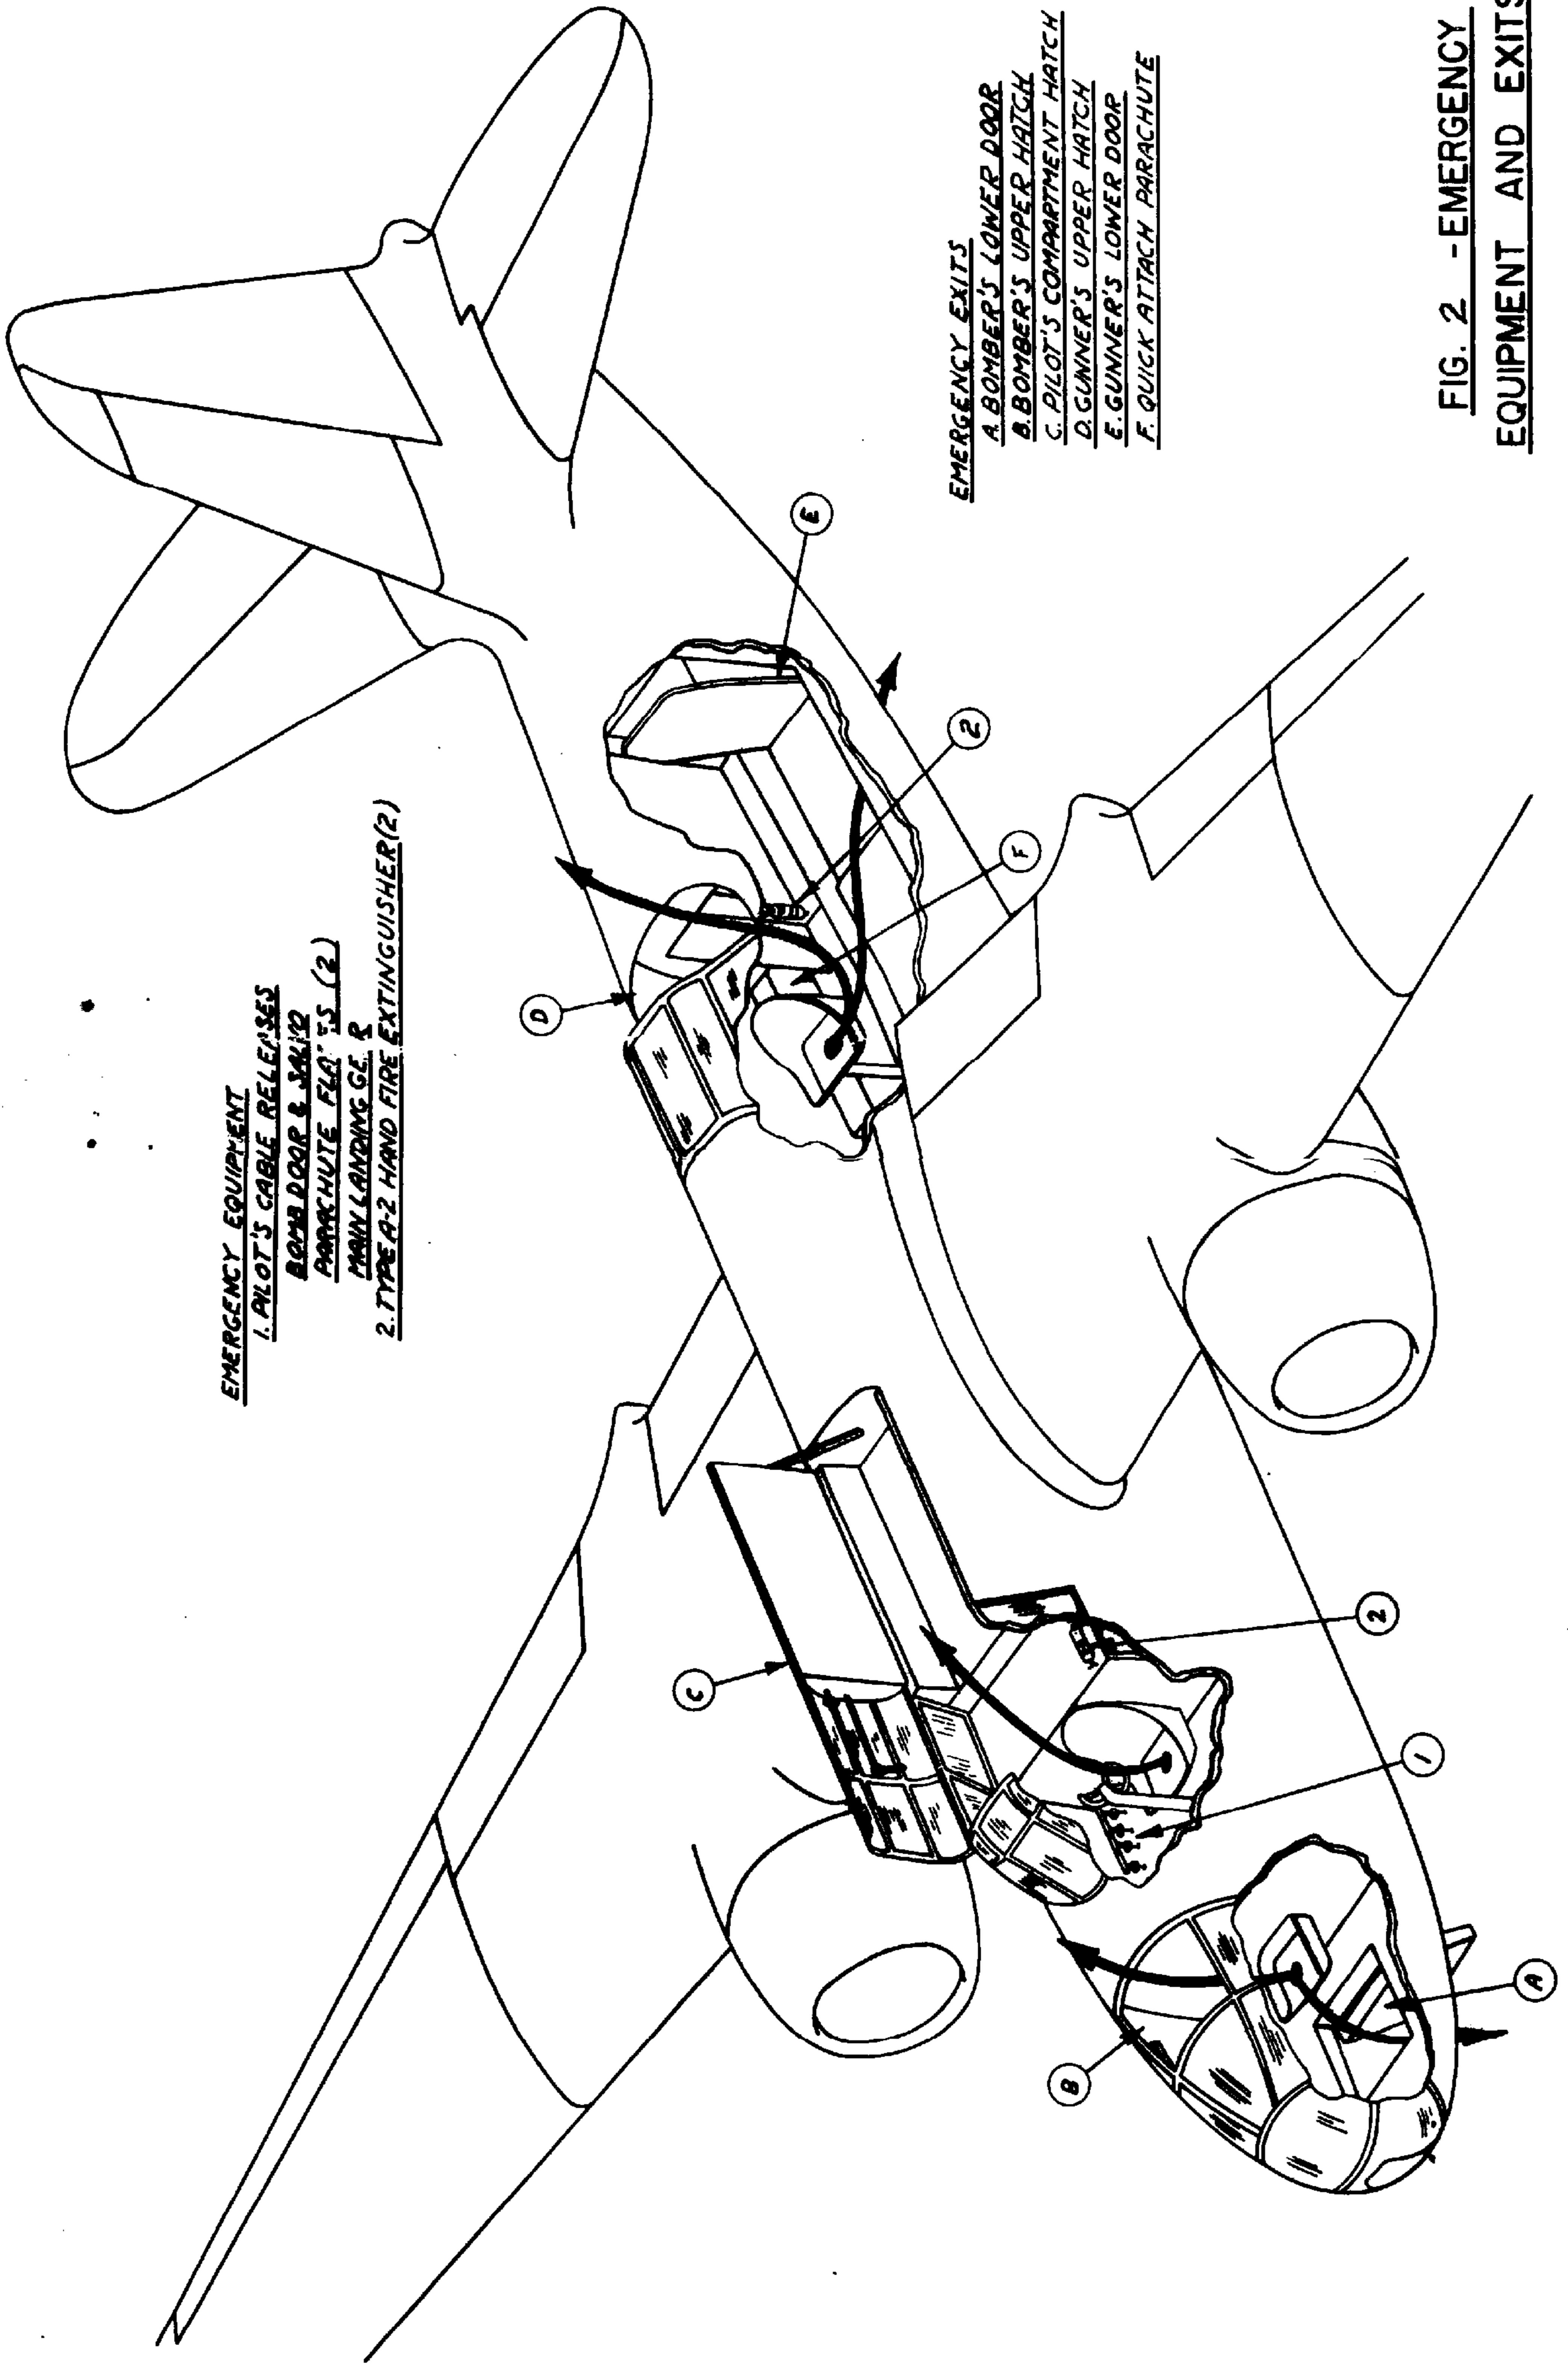

FIG. 2 - EMERGENCY EQUIPMENT AND EXITS
or demolition bombs or a combination of the bombs. The gunner's compartment is located aft of the bomb bay and is equipped with two .30 caliber flexible machine guns. The gunner's compartment is also provided with the flight and engine controls necessary for emergency operation of the airplane. Emergency equipment and exits are illustrated in Figure 2.
d. Fuselage Equipment. - (1) Seats: The pilot's seat is adjustable in height. The bombardier's seat is a bucket type mounted on hinge fittings and held in down position by a cable and pin mechanism. The seat may be stowed in a vertical position up against the nose compartment bulkhead where it is retained by a shock cord bungee. The gunner's seat is of a swivel type and may be locked in a fore or aft position. It is also adjustable for height. Each seat is equipped with a Type B-11 safety belt.
(2) Relief Tubes: Each crew member is provided with a relief tube. The bombardier's tube is stowed under a panel in the floor of his compartment. The pilot's and gunner's tubes are stowed on the right side of their respective compartments.
(3) Gunner's Parachute: Stowage brackets for a quick-attachable parachute are installed on the right side of the gunner's compartment.
(4) Life Preserver Cushion: A Type A-1 life preserver cushion is provided for the gunner's seat.
(5) Miscellaneous: A combination navigation case and map case is installed in the pilot's compartment. A check list holder is mounted on the right side of the bulkhead behind the pilot's seat. An airplane data case is installed on the left side of the gunner's compartment. A bomb sight stowage box is installed in the upper aft end of the gunner's compartment and is provided with a key lock.
(6) Bombardier's Compartment: Entry into the bombardier's compartment is made through a door in the floor. The door is unlatched from the outside by a handle located in the right forward corner of the door. The handle also contains a key lock which permits the door to be locked from the outside. From inside, the door is unlatched by a handle located on the centerline of the door near the forward edge. It is also provided with an emergency release located just aft of the unlatching handle. When the emergency release is operated, it pulls the latching pins and a pin attaching the shock cord bungee to the door and allows the door to swing full open. The bombardier's compartment is provided with an emergency hatch (See Figure 2) located in the top of the compartment. The hatch may be opened by a cable release mechanism accessible through a hand hole. To open the hatch, pull cable release and push door out of the opening. Entrance to the bombardier's compartment may be gained from the outside of the airplane by breaking the fabric patch over the cable release hand hole and pulling the cable.
(7) Pilot's Compartment: Entry into the pilot's compartment is made through an enclosure installed over the compartment and the deck behind the pilot's seat. The enclosure is hinged on the right side and swings upward and to the right when opened. The enclosure is unlatched from the outside by a handle located at the left rear corner of the enclosure. A key lock installed in the handle also permits the enclosure to be locked from the outside. From inside, the enclosure is unlatched by a handle located on the left side of the enclosure between the forward and aft transparent panels. When opened, the enclosure is held in open position by a brace installed at the aft end of the enclosure. When closing the enclosure, the knee joint of the brace must be broken by operating the handle, located on the centerline of the enclosure between the fore and aft transparent panels. An emergency release handle is provided and is located at the aft transparent panel. When the release handle is operated, it unlatches the enclosure and at the same time pulls the pins from the hinges and the brace. A push on the enclosure allows the airstream to carry the enclosure away. Refer to Figure 2.
(8) Gunner's Compartment: Entry into the gunner's compartment is made through a door installed in the floor of the compartment. The door is made up of a fore and aft section hinged together and is hinged at its aft end to the fuselage structure. When the door is opened, the aft section raises approximately 15 degrees to provide increased clearance for the lower gun in firing position and the forward section swings upward and aft about the hinges attaching it to the rear section. To open the door from outside, operate the latch handle located in the center of the forward section and push upward on the door. From inside, the door may be opened by operating a crank mechanism installed on the right side of the compartment or by operating the latch handle in the center of the forward section and lifting up on the door. A spring bungee is provided to hold the door open when fully raised. The latch handle in the center of the forward section is provided with a key lock should it be desired to lock the gunner's compartment while the airplane is parked. The aft portion of the gunner's enclosure may be opened by moving the aft section of the enclosure forward and stowing it under the fixed section. In the closed position, the aft section is retained by two latches located at the upper aft end of the fixed section. The upper right latch is provided to lock the enclosure while the airplane is parked and it is recommended that the latch be kept in the unlatched position at all times, except when it is desired to lock the gunner's compartment while the airplane is parked. To open the enclosure, unlatch the upper left latch and the upper right latch if it has not been released previously; allow the forward end of the aft section of the enclosure